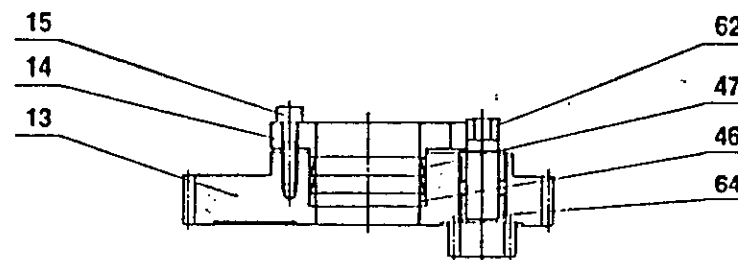

FIG 17.2
17.12 Indexing Gear Sub-assembly (fig 17.2): Assemble all components as shown in fig 17.2. Tighten bolts (15) with a light force. In case of models BTP-80 and BTP-100, pinion assembly should also be in place.